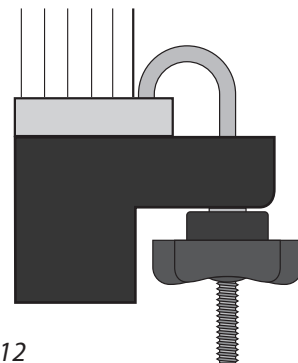

FIG. 12
- 13** To install the Stacking Sound Filter (N) refer to the included instruction sheet:
- 14** Attach the Fine Dust Bin (J4) to the Filter with four J-Bolts (J5A) and four Thumb Nuts (J5B) as in [FIG. 12].